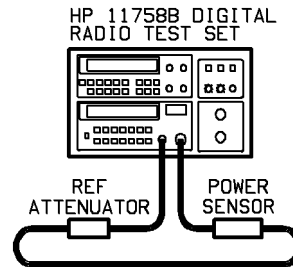

Figure 3-12. Reference Calibration
- a. Set up the power meter as shown in Figure 3-12.